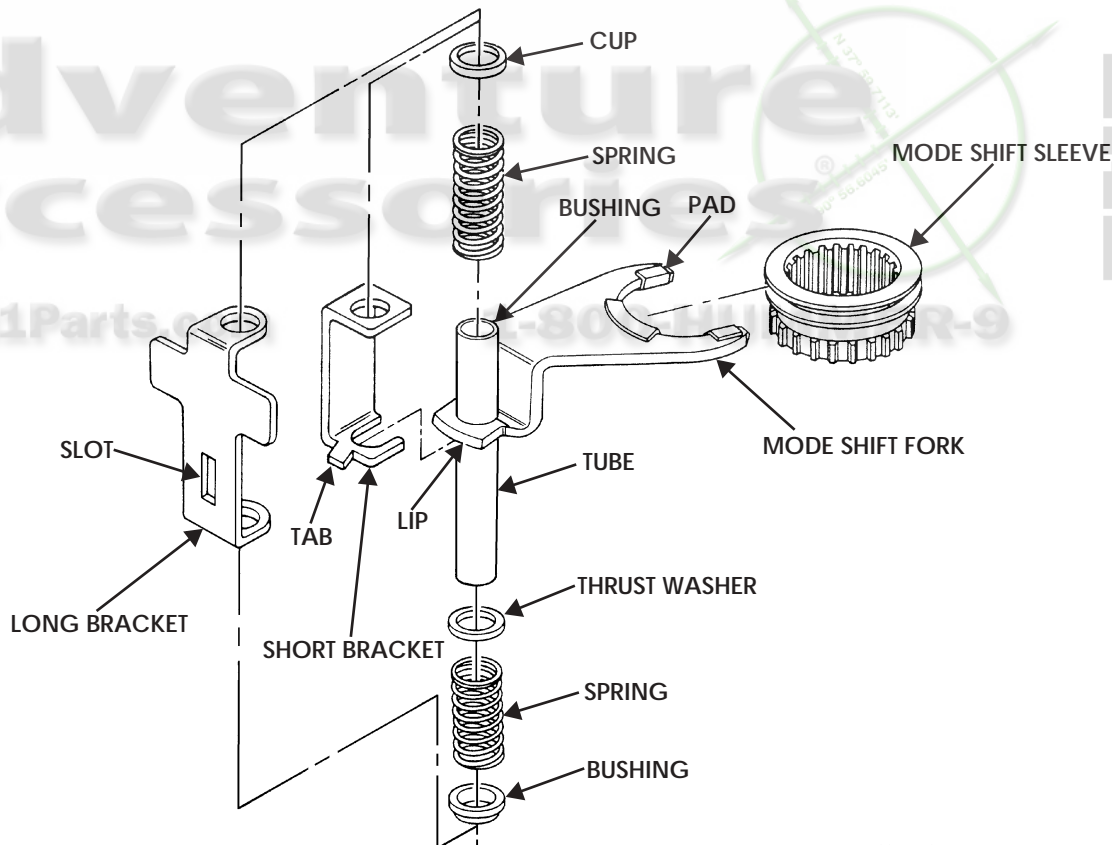

Figure 5-166: Shift Fork Components
2. Press mode shift fork forward and disengage tube from rear of long bracket. Ease fork and short bracket out of long bracket (Figure 5-166).
9. Clamp long bracket in vise (Figure 5-166).